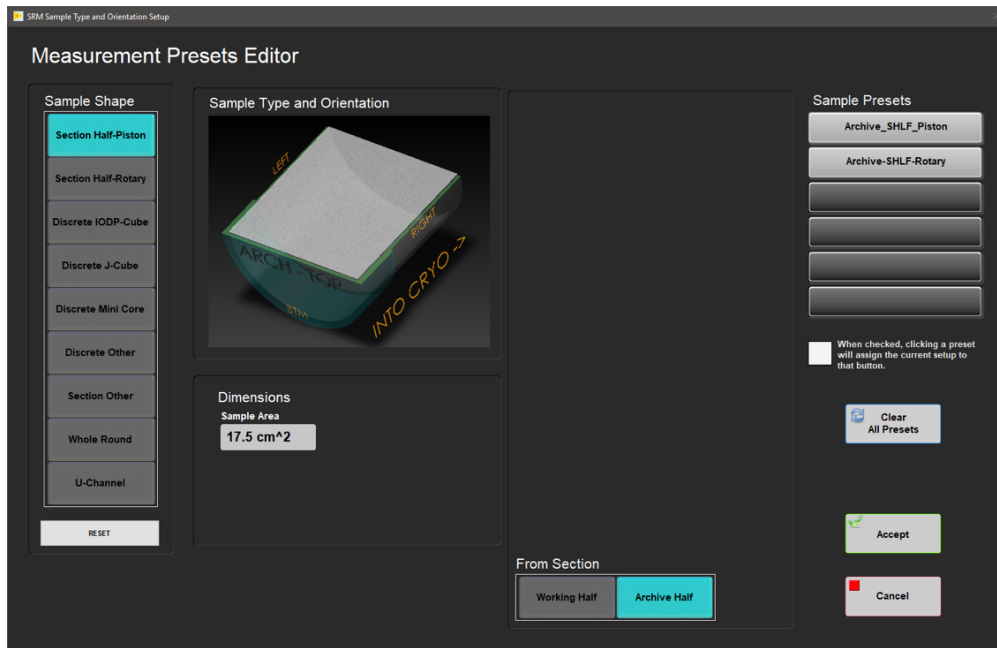

Figure 6. Sample Preset Editor Window.
1. To set up a sample preset shape, select **DAQ>Sample Preset Editor** (Figure 6).